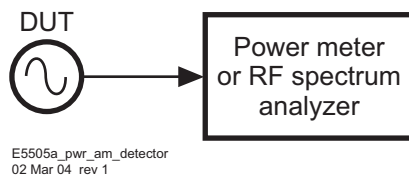

Figure 231 Measuring power at the am detector
- 2 Measure the power which will be applied to the AM detector (Figure 231). It must be between 0 and +23 dBm.